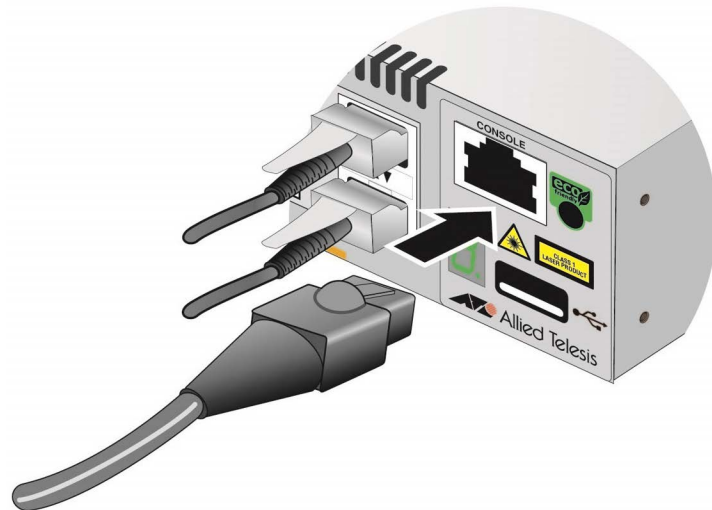

Figure 63. Connecting the Management Cable to the Console Port
1. Connect the RJ-45 connector on the management cable to the Console port on the front panel of one of the switches in the stack. It can be the master switch or a member switch. Refer to Figure 63.